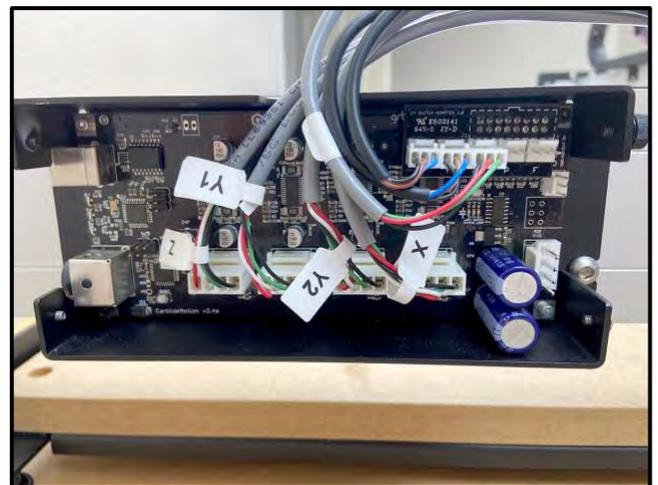

Figure 19
1. Plug the PCB riser board into the Carbide Motion board. See **Fig. 19**.
2. Plug the proximity switch cables and stepper motor extension cables into the Carbide Motion board. See **Fig. 19**.